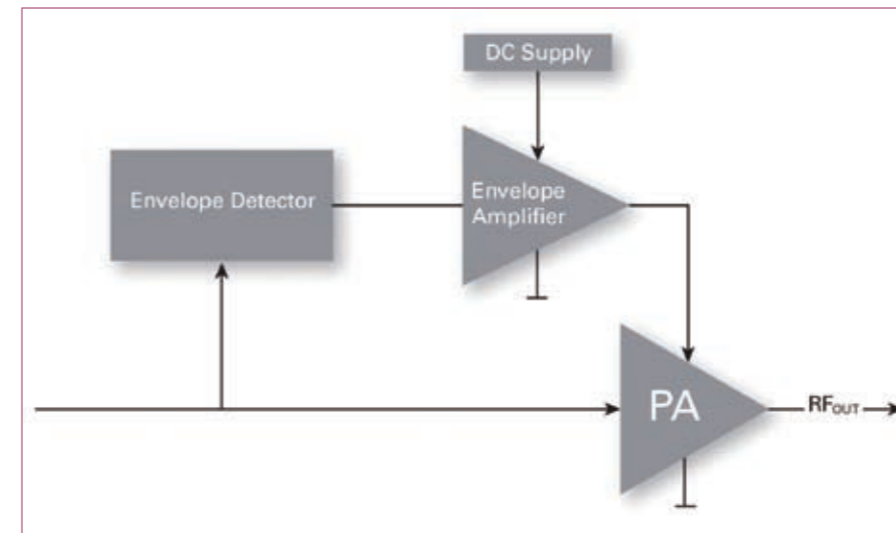
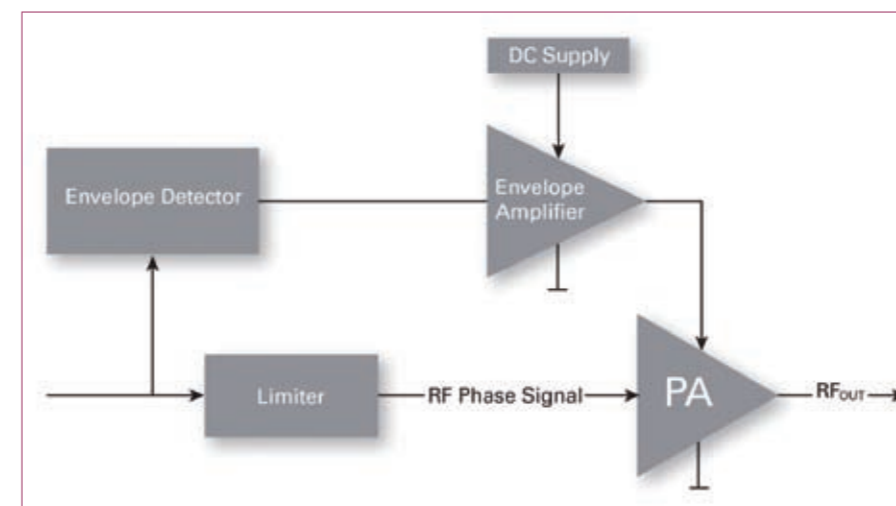

Figure 5: Envelope tracking
Figure 6: Envelop elimination and restoration
efficiency. Two major power supply control schemes currently exist: Envelop Tracking (ET), as shown in Figure 5, and Envelop Elimination and Restoration (EER), as shown in Figure 6.